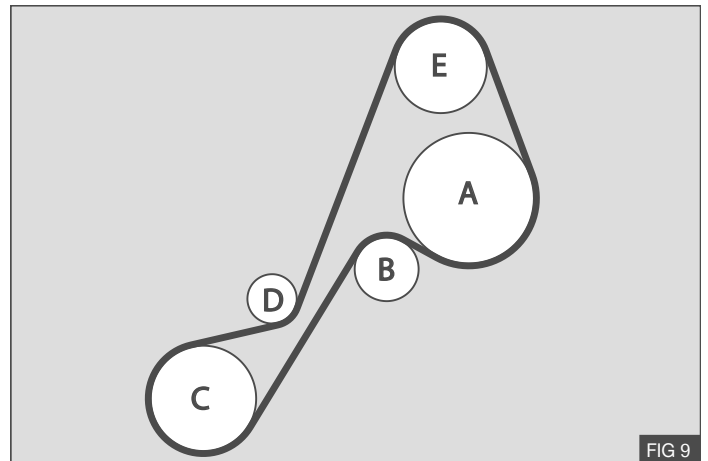

FIG 9
1. Feed the supplied belt over the viscous fan and install the drive belt as shown opposite - Fig 9